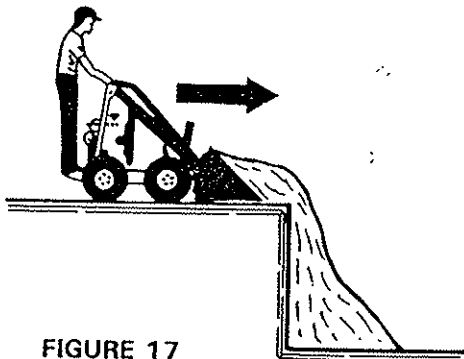

FIGURE 17
1. When filling a trench or a hole, drive up the hole with bucket low or push material up to edge, as in Figure 17.